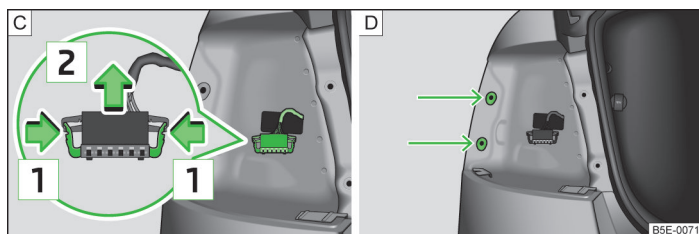

Fig. 230 Installing the lamp connector/lamp
- Press together the interlocks on the connector in the direction of arrow [1] » Fig. 230 - [C].
- Insert the lamp into the mounts in the body » Fig. 230 - [D].